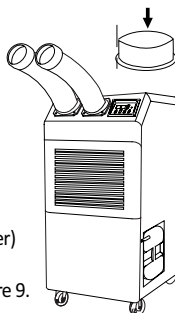

Figure 10
3. Use screws (enclosed inside of box with the top fan exhaust flange) to install the top fan exhaust flange on air conditioner as shown in Figure 10.